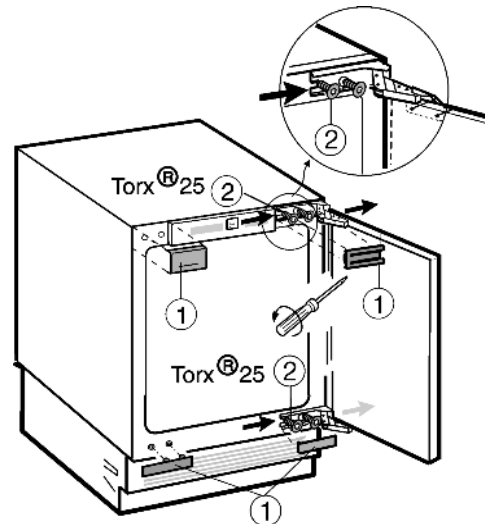

Fig. 2
- ▶ Lift off covers Fig. 2 (1).
- ▶ Only slacken fastening screws Fig. 2 (2).
- ▶ Transfer top and bottom fastening screws *Fig. 2 (2)* to the opposite side.
- ▶ Attach appliance door to the prefitted fastening screws *Fig. 2 (2)*.
- ▶ Firmly tighten the fastening screws *Fig. 2 (2)* (**with 4 Nm**).
- ▶ Re-fit covers *Fig. 2 (1)*.